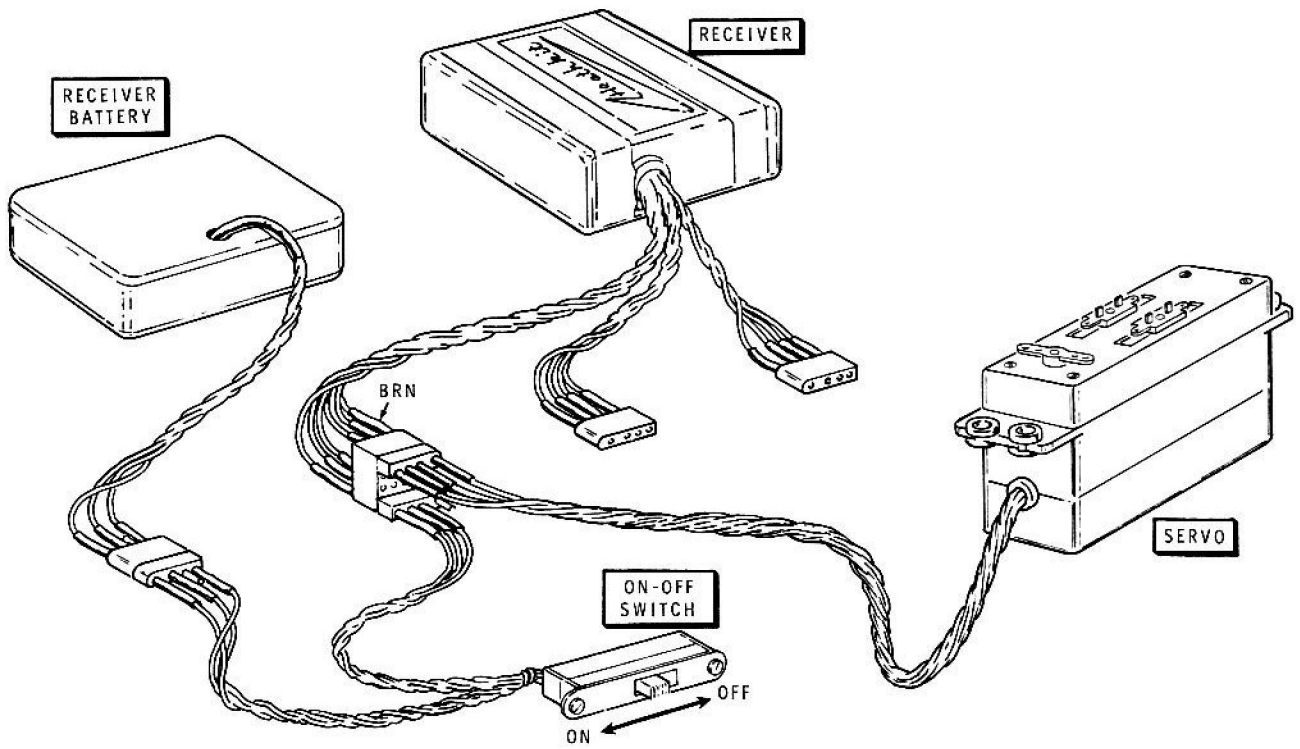

FIGURE 3-7
- () Refer to Figure 3-7 (fold-out from Page 85) and plug the connector of the marked Servo into channel #1 of the Receiver (the terminal with the brown wire). Note that the connectors are polarized and will fit correctly only one way.
In the following steps, each of the five Transmitter channels will be checked and adjusted to make sure its servo will center properly and travel the proper distance in each direction. Use the following seven-step Procedure to adjust each channel. Refer to Figure 3-2 (fold-out from Page 66) and Figure 3-7 (fold-out from Page 85).
Refer to Figure 3-7 (fold-out from Page 85) for the following steps. Repeat these steps for each Servo.